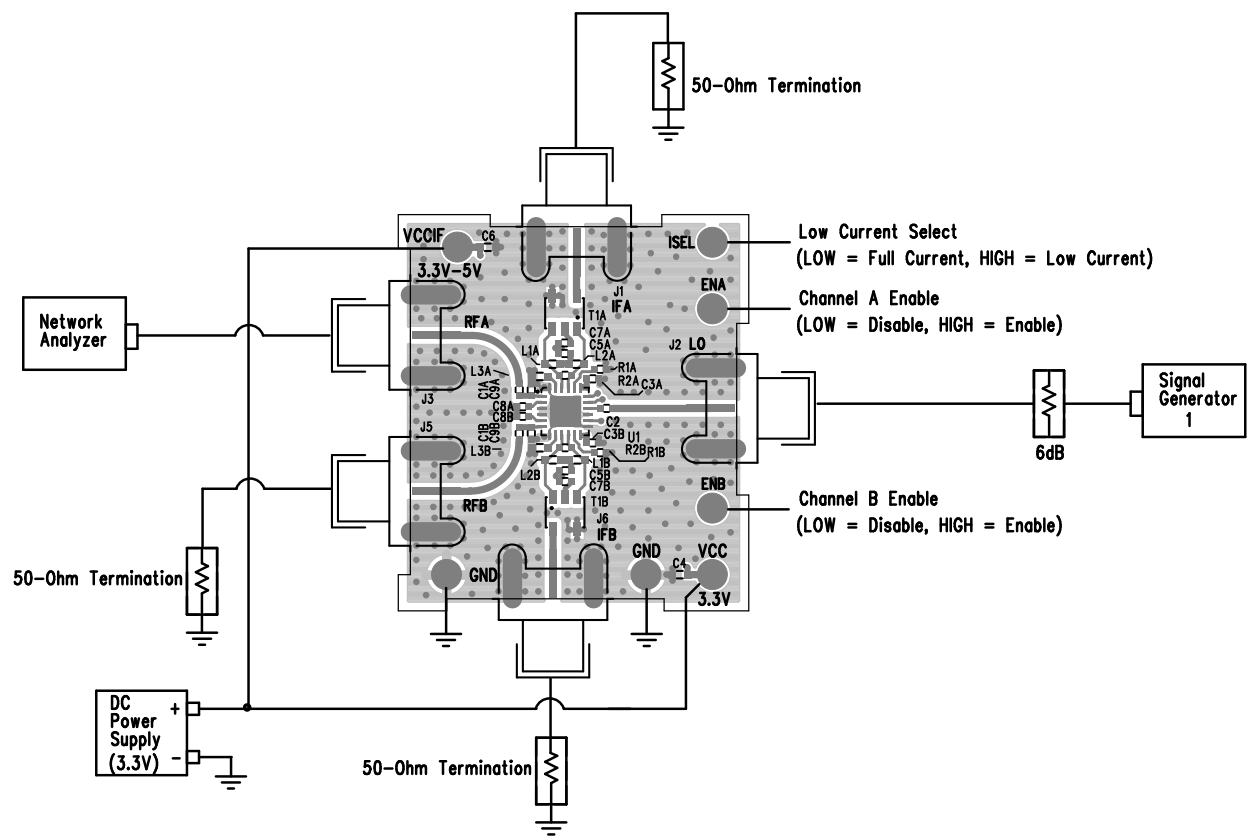
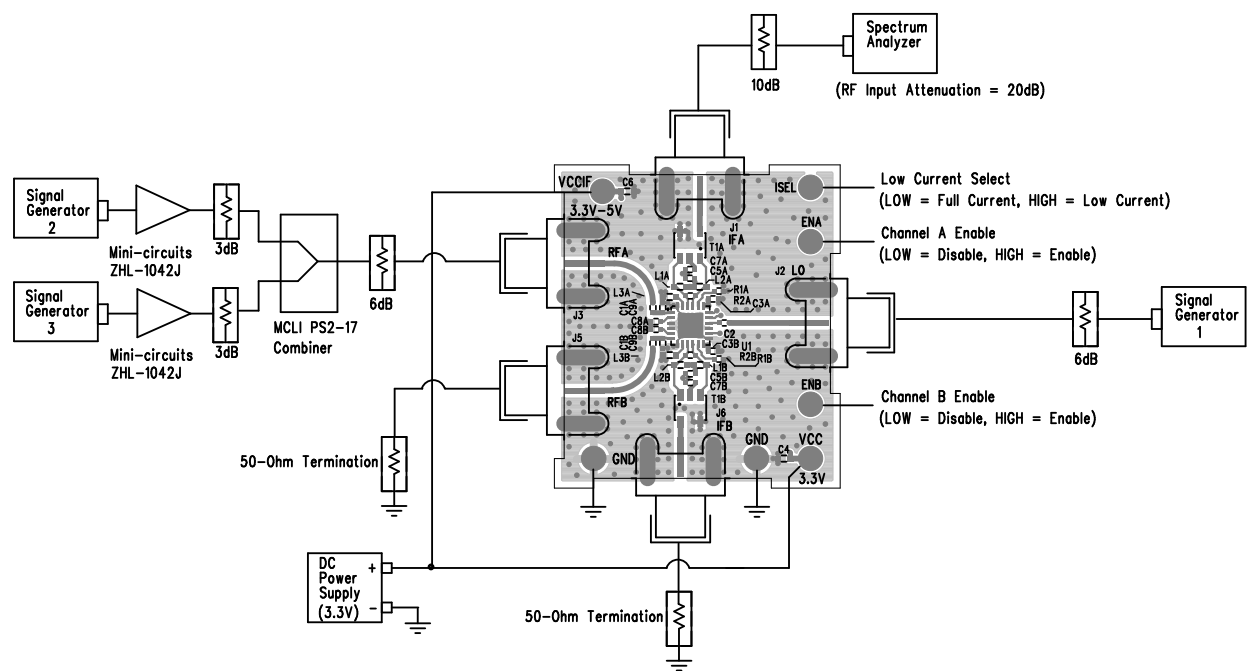

Figure 5. Proper Equipment Setup for Return Loss Measurements
Figure 6. Proper Equipment Setup for RF Performance Measurements
The LTC5592 is a dual high dynamic range downconverting mixer IC with very high input 3rd order intercept. Accuracy of its performance measurement is highly dependent on equipment setup and measurement technique. The recommended measurement setups are presented in Figure 5, Figure 6, and Figure 7. The following precautions should be observed:
The LTC5592 consists of high linearity passive double-balanced mixer cores and IF buffer amplifiers. Due to the bidirectional nature of all passive mixers the $\text{LO} \pm \text{IF}$ mixing products, also referred to as pseudo-image spurs, are always present at the RF input, typically at a level 12dB below the RF input signal. Mismatched impedances at the pseudo-image spur frequencies, such as when filters are used for SSB NF measurements, can significantly impact the linearity and noise figure measurements. To avoid interference from the pseudo-image spurs, terminate the RF input port with an isolator, diplexer, or attenuator. In the recommended measurement setups presented in Figure 6 and Figure 7, the 6dB attenuator pad at the demonstration circuit's RF input serves this purpose.
Demonstration circuit 1710A-C is easy to set up to evaluate the performance of the LTC5592. Refer to Figure 5, Figure 6, and Figure 7 for proper equipment connections. The following procedures describe performing measurements on Mixer Channel A. The measurement procedures for Mixer Channel B are identical.
3. Connect all test equipment as shown in Figure 5 with the signal generator and the DC power supply turned off.
1. Connect all test equipment as shown in Figure 6 with the signal generators and the DC power supply turned off.